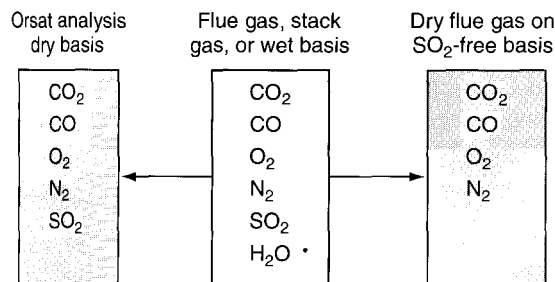

Figure 10.4 Comparison of a gas analysis on different bases.
2. **Orsat analysis or dry basis:** All the gases resulting from combustion process **not including the water** vapor. **Orsat analysis** refers to a type of gas analysis apparatus in which the volumes of the respective gases are measured over and in equilibrium with water; hence each component is saturated with water vapor. The net result of the analysis is to **eliminate water** as a component being measured (show Figure 10.4).
6. **Excess air (or excess oxygen):** In line with the definition of excess reactant given in Chapter 9, excess air (or oxygen) would be the amount of air (or oxygen) **in excess of that required for complete combustion** as defined in (5).